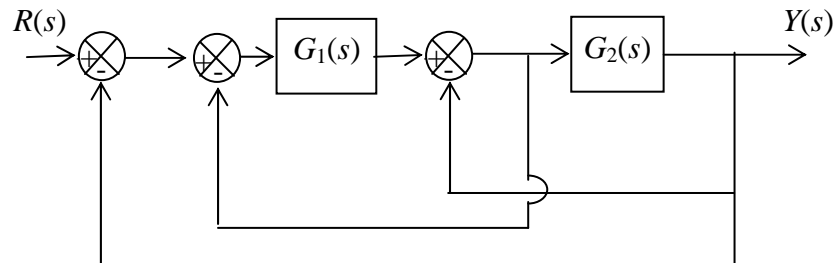

Figure 1
1. A control system is as shown in Figure 1. Derive the closed-loop transfer function $Y(s)/R(s)$.